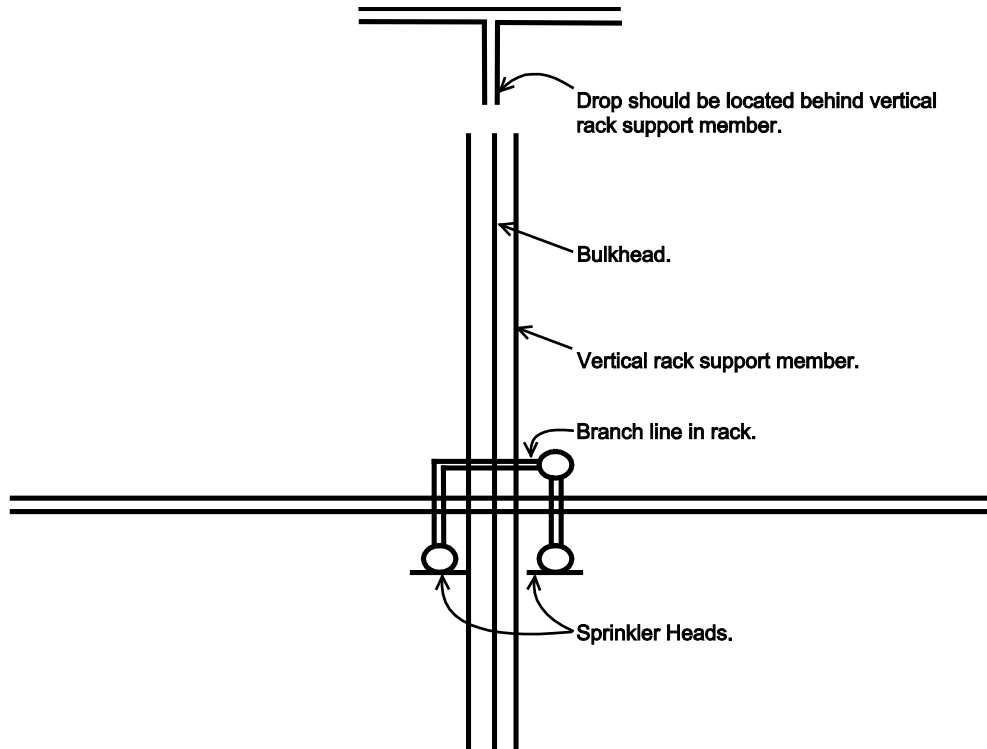

Figure 3. Rack Sprinkler Installation With Fire Stops or Bulkheads.
- Install in-rack sprinklers on both sides of vertical barriers at the column line where such barriers are provided. (See Figure 3.)